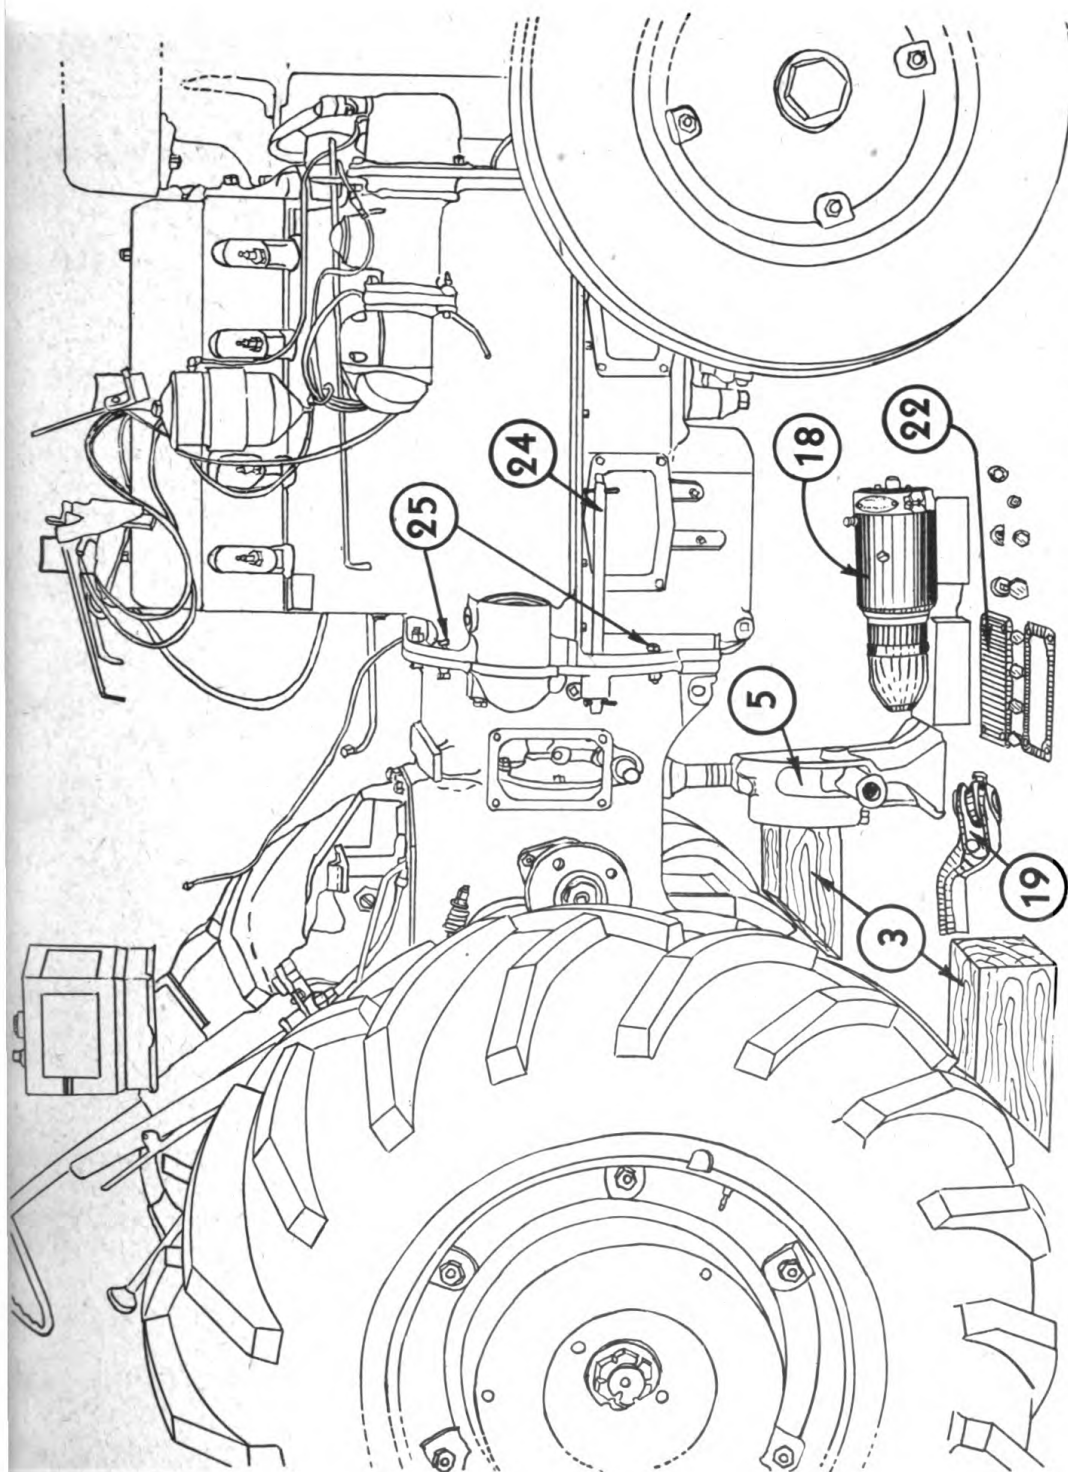

Fig. 26. Right Hand Side View—Preparing a Tractor for Splitting
The clutch can be removed and a new drive plate assembly with facing installed in a short time. To do this, it is necessary to split the tractor. Refer to Figs. 26, 27 and 28.
3. Block the drive wheels as shown at 3, Fig. 26 and apply the hand brake, also lay two boards on the ground and drive front wheels of tractor onto these boards. The front end of tractor will then roll easily while splitting.
5. Block up the front end of the transmission case, or use a jack as shown at 5, Fig. 26.
18. Disconnect starter cable at starter, and remove starter as shown at 18, Fig. 26 to avoid damage of starter gear while splitting.
19. Remove brake shoe from clutch throwout shaft as shown at 19, Fig. 26.
22. Remove hand hole covers from both sides of clutch housing as shown at 22, Figs. 26 and 27.
24. Remove the $\frac{3}{4}$ " shoulder bolt on each side of flange and replace with two pins $\frac{3}{4}$ " by $13\frac{1}{8}$ " long as shown at 24, Figs. 26 and 27. These special pins can be ordered from any CASE dealer under No. 139AA. Oil these pins and use cotter pins in each end to prevent pins from coming out. These pins will act as dowels to hold engine and transmission case in line when split.
25. Take out all bolts and cap screws from transmission flange, two of which are shown. (See 25, Fig. 26)
33. Replace and tighten four $\frac{1}{2}$ " bolts (2 on either side of tractor). These are shown as 25, Fig. 26.